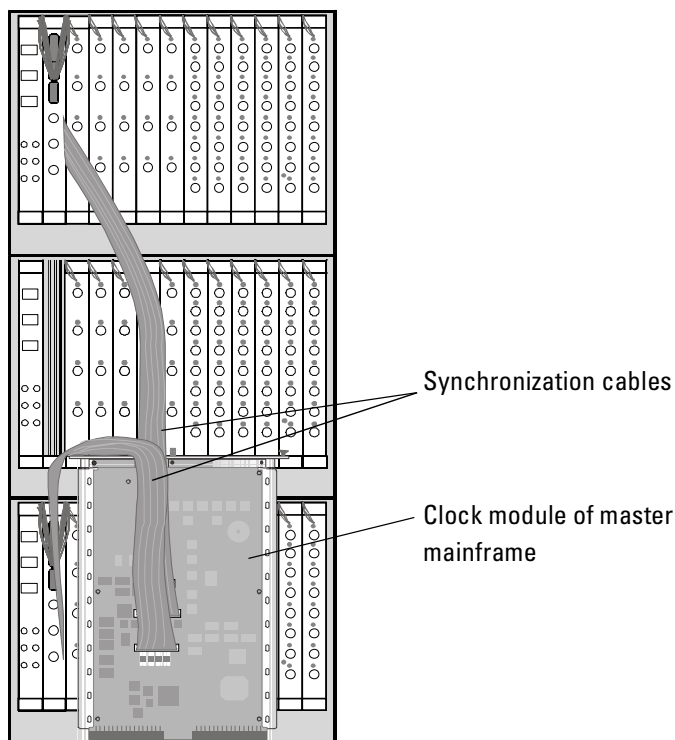

Figure 18 Connectors of the Master Mainframe's Clock Module
- 3 Plug the synchronization cables from the expander frames onto the clock module, as shown in *Figure 18*.